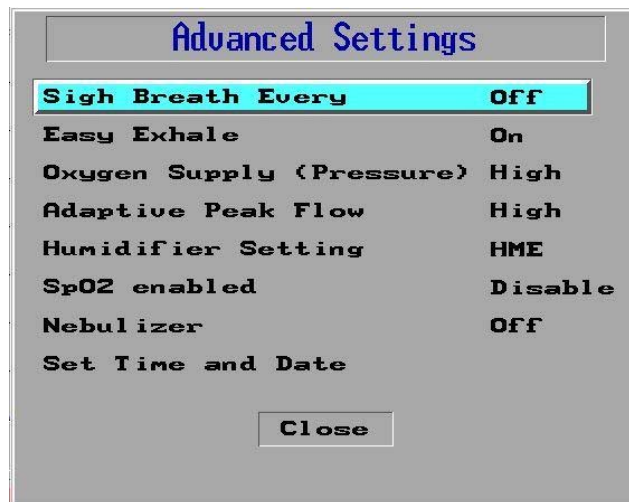

Figure 76: the Advanced Settings Menu
3. Press the Control Knob. The **Advanced Settings** menu appears (Figure 76).